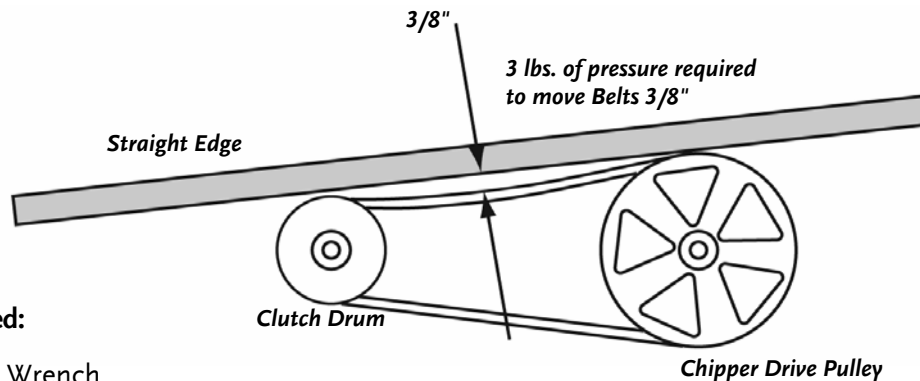
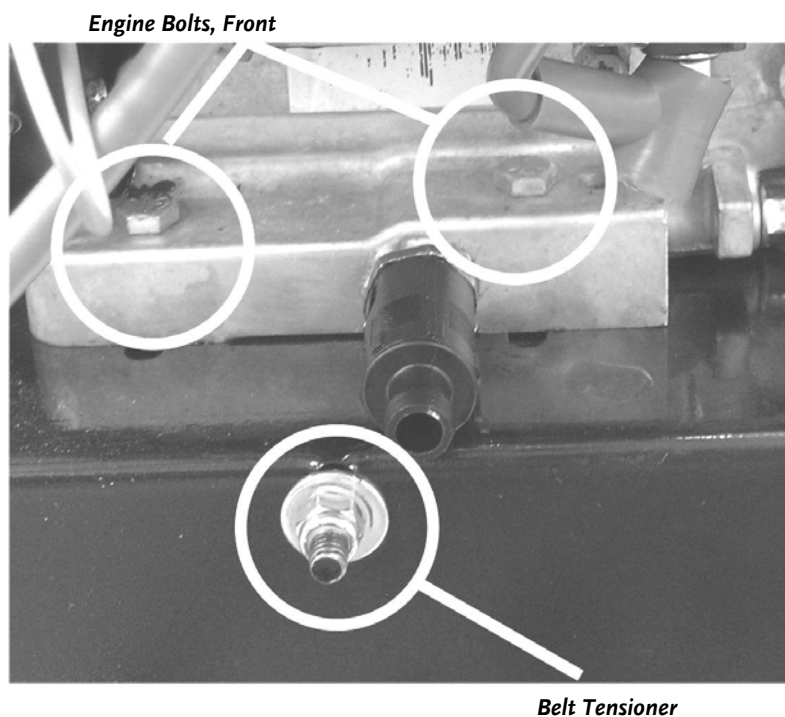
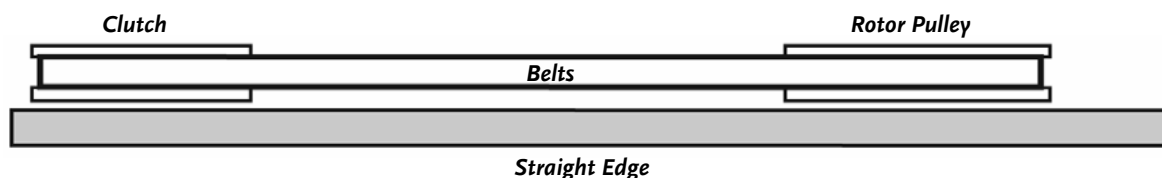
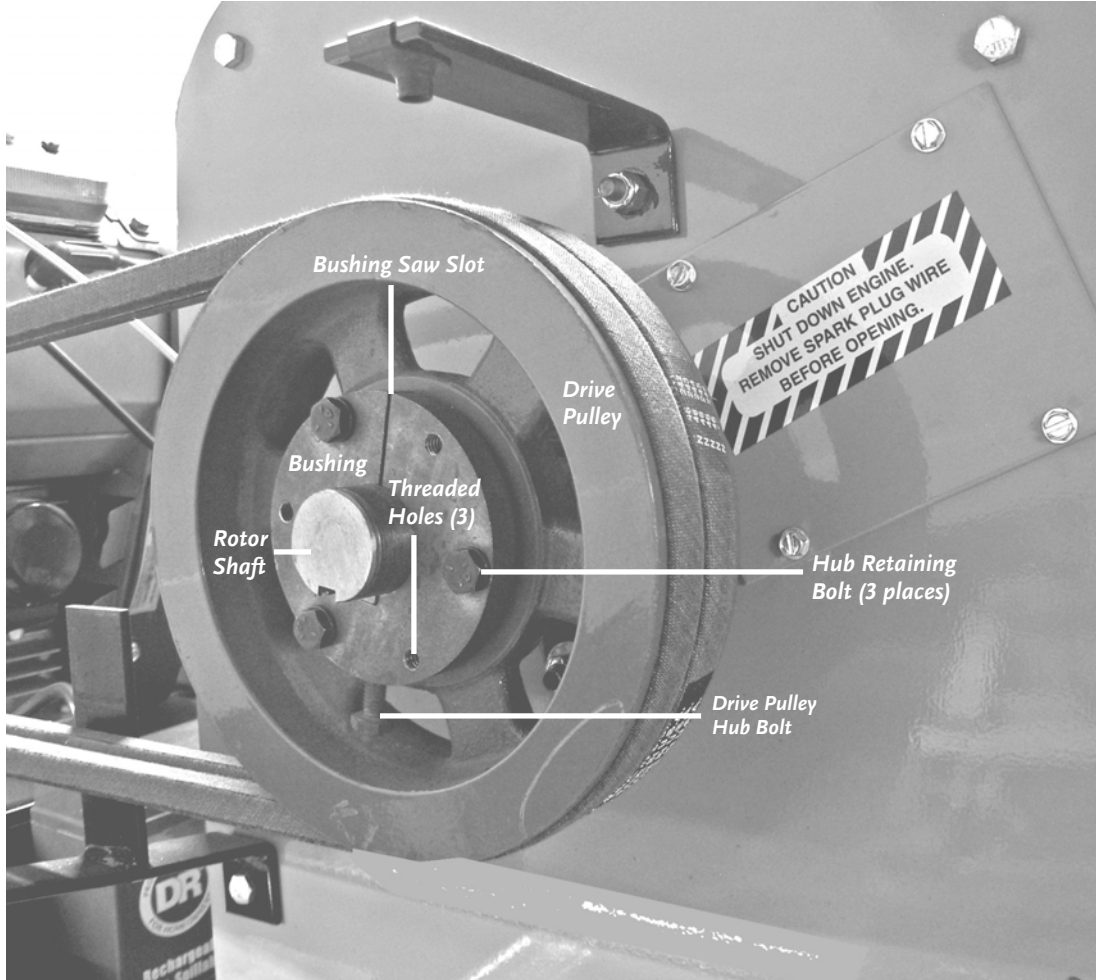

Figure 13
Figure 14
Figure 15
Figure 16
The belts on your DR ROAD-TOWABLE CHIPPER should deflect $3/8$ " under approximately three (3) pounds of pressure as shown in **Figure 13**; if they do not, adjust per the following directions.
2. Loosen the four (4) Engine Bolts (2 in the Front and 2 in the Rear) using two (2) 1/2" Wrenches, one (1) on the Bolt and one (1) on the Nut underneath (**Figure 14** on page 36).
3. Tighten or loosen the nut on the Belt Tensioner (**Figure 14** on page 36) using a 1/2" Wrench until you have the correct tension as shown in **Figure 13**.
4. Retighten the four (4) Engine Bolts.
5. Check the alignment of the Clutch with the Drive Pulley by placing a straightedge across both faces as shown in **Figure 15** on page 36. If adjustment is necessary, correct the alignment as follows:
- a) Loosen the Drive Pulley Hub Bolt with a 7/16" Wrench (**Figure 16** on page 37).
- b) Remove the three (3) Hub Retaining Bolts using a 7/16" Wrench (**Figure 16** on page 37).
- c) Reinstall the three (3) Bolts in the unused Threaded Holes (**Figure 16** on page 37) adjacent to the three (3) Hub Retaining Bolt holes.
- d) Slowly tighten the Bolts evenly and alternately (1/4 to 1/2 turn) starting with the Bolt farthest from the Bushing Saw Slot (this acts as a Hub puller) until the Bushing releases from the Rotor Shaft (**Figure 16** on page 37).
- e) Using a straightedge, align the Clutch and Drive Pulley as shown in **Figure 15** by moving the Drive Pulley in or out on the Rotor Shaft (**Figure 16** on page 37). **Do not make the adjustment by moving the Clutch on the Engine Shaft.**
- f) Remove the three (3) Bolts and reinsert them into the original Retaining Bolt holes.